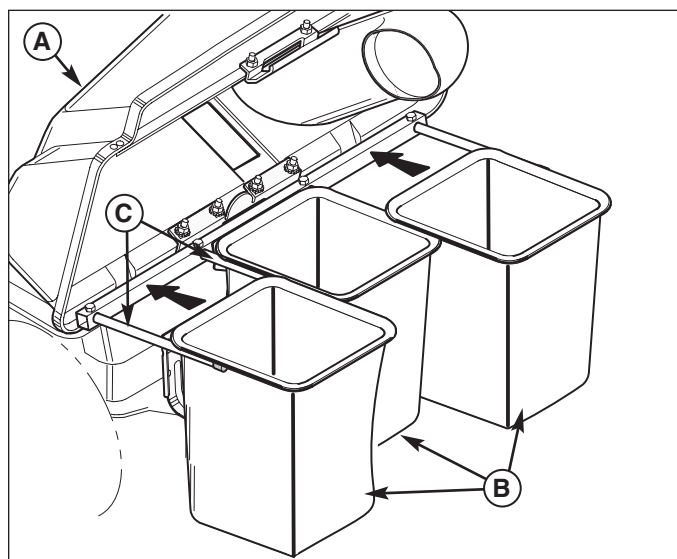

Figure 13. Install Collector Bags
1. Raise the cover (A, Figure 13).
2. Slide collector bags (B) onto tubes (C) with the white bar towards the rear.